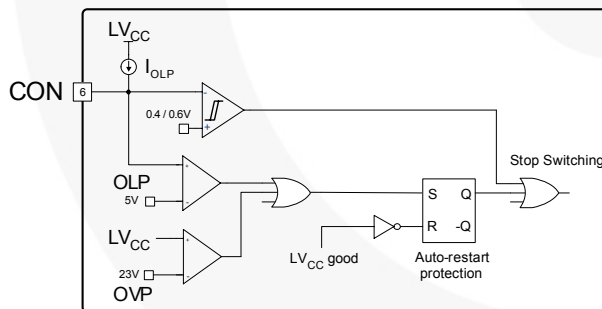

Figure 21. Internal Block of Control Pin
4. Control Pin: The FAN7621 has a control pin for protection, cycle skipping, and remote on/off. Figure 21 shows the internal block diagram for control pin.